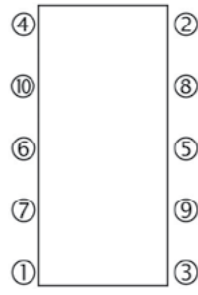

Fig.11
- Clean and lubricate the tie-rods, position them on the frame, then tighten the nuts gradually and evenly in the order indicated in Fig. 11 until the correct dimension is obtained between the plates (tightening dimension), as specified on the nameplate. Check that this dimension is the same on each side. Overtightening may irreversibly distort the plates. If you feel it is necessary to tighten beyond the recommended dimension, contact Atlantic to obtain advice.
- It is recommended to perform a pressure test after all maintenance on the plates and gaskets in order to check the heat exchanger's internal and external tightness. The maximum pressure for each circuit should be equal to the operating pressure and should never exceed the rated pressure (PS) specified on the nameplate. The recommended testing time is at least 10 minutes. Nevertheless, it remains the user's responsibility to check national standards and local codes affecting such a test. If different test conditions are required, please note that the heat exchangers